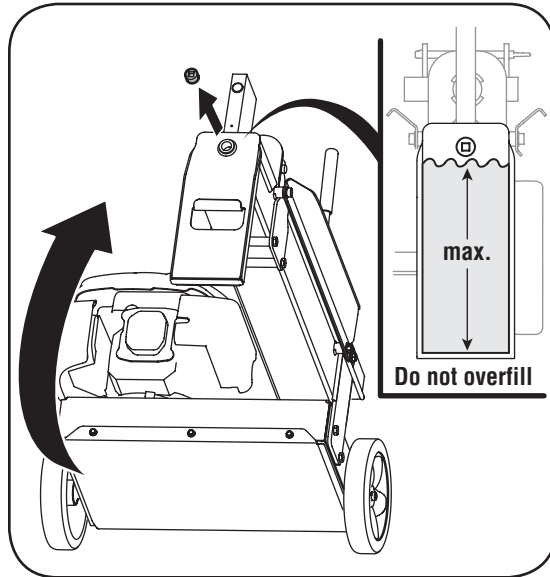

Figure 3-1
1. Remove oil plug, which is located on the end of the beam assembly. See Figure 3-1.